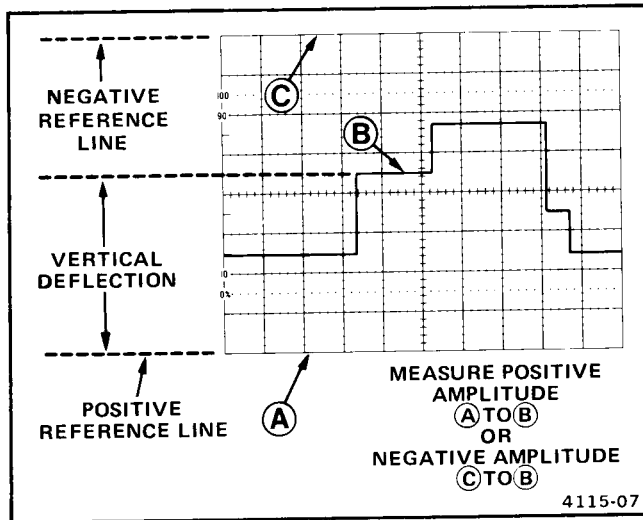

Figure 4-3. Instantaneous voltage measurement.
11. Measure the divisions of vertical deflection between the reference line and the desired point on the waveform at which the dc level is to be determined (see Figure 4-3).
EXAMPLE: The measured vertical deflection from the reference line is 4.6 divisions (see Figure 4-3), the waveform is above the reference line, the VOLTS/DIV switch is set to 2, a 10X attenuator probe is being used, and the A TRIGGER SLOPE switch is set to OUT: .